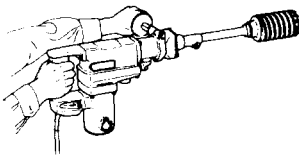

Fig. 15
- (1) Insert the plug into a power supply receptacle.
- (2) A spring is built in the center pin. By straightly and gently pressing it to the wall or floor surface, the entire surface of the core bit tip attains contact to start the hole drilling job. (Fig. 15)
- (3) When the hole depth reaches approximately 3/16", the hole position can be determined. Then remove the center pin and guide plate from the core bit and continue the hole drilling job.